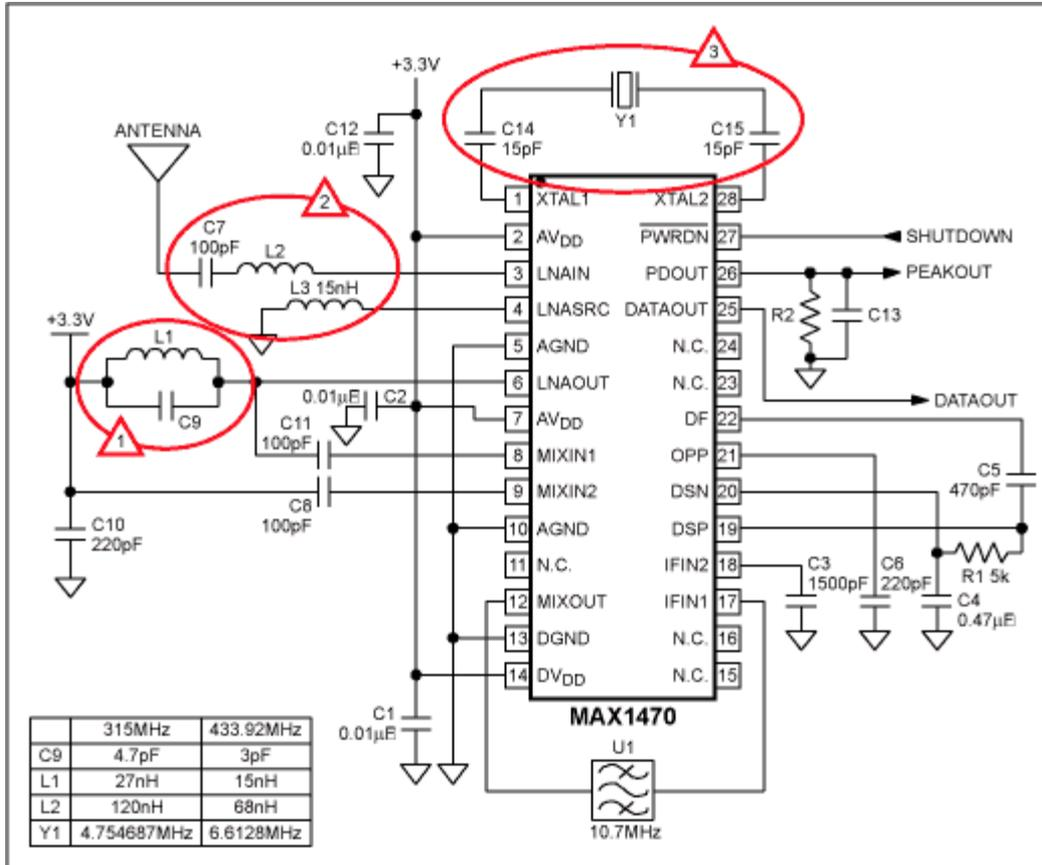

Figure 1. MAX1470 typical circuit.
**Figure 1** shows a typical MAX1470-based circuit. There are 3 areas of possible tuning to improve RF performance: